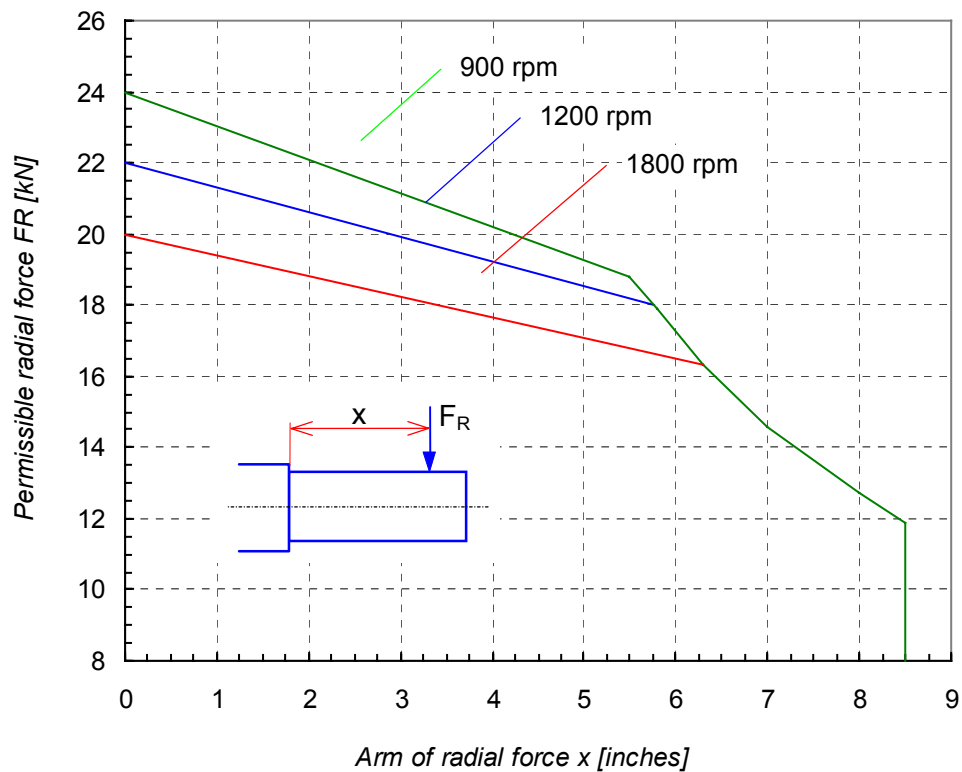

Fig. 2.
When a belt drive is to be used selection of proper pulleys must receive due attention. Smaller than required pulleys tend to damage the bearing and the shaft drive end. Please refer to Fig. 2 for allowable radial forces applied to the shaft drive end. Assume that the F_R force is applied at the middle of a pulley rim.
- F_R - allowable radial force /N/ per Fig.2
Life of the bearings is about 25.000 hours provided the shaft drive end is loaded with forces $/F_R/$ shown in Fig. 2. For making-up use grease guns-grease is charged through bearing caps; shutting-down of the motor is not required for greasing.